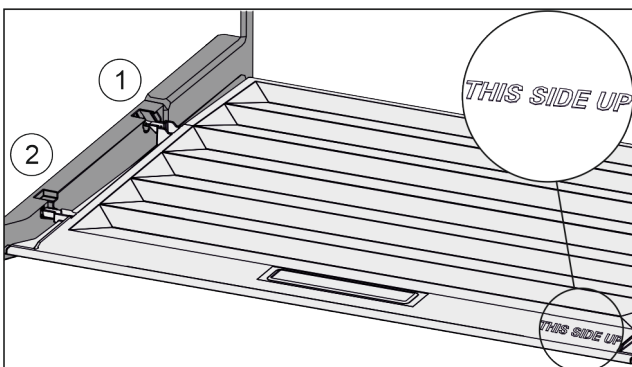

Fig. 74
- ▶ Insert the lip of the cover over the opening of the rear bracket Fig. 74 (1) and click into place Fig. 74 (2).